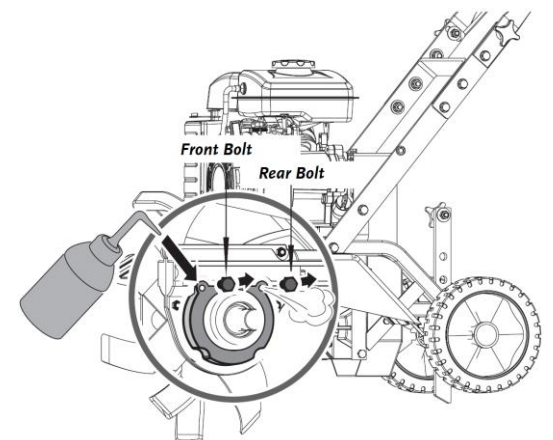

Figure 23
3. Remove the two Bolts above the Shaft using a 13mm Wrench (**Figure 23**).